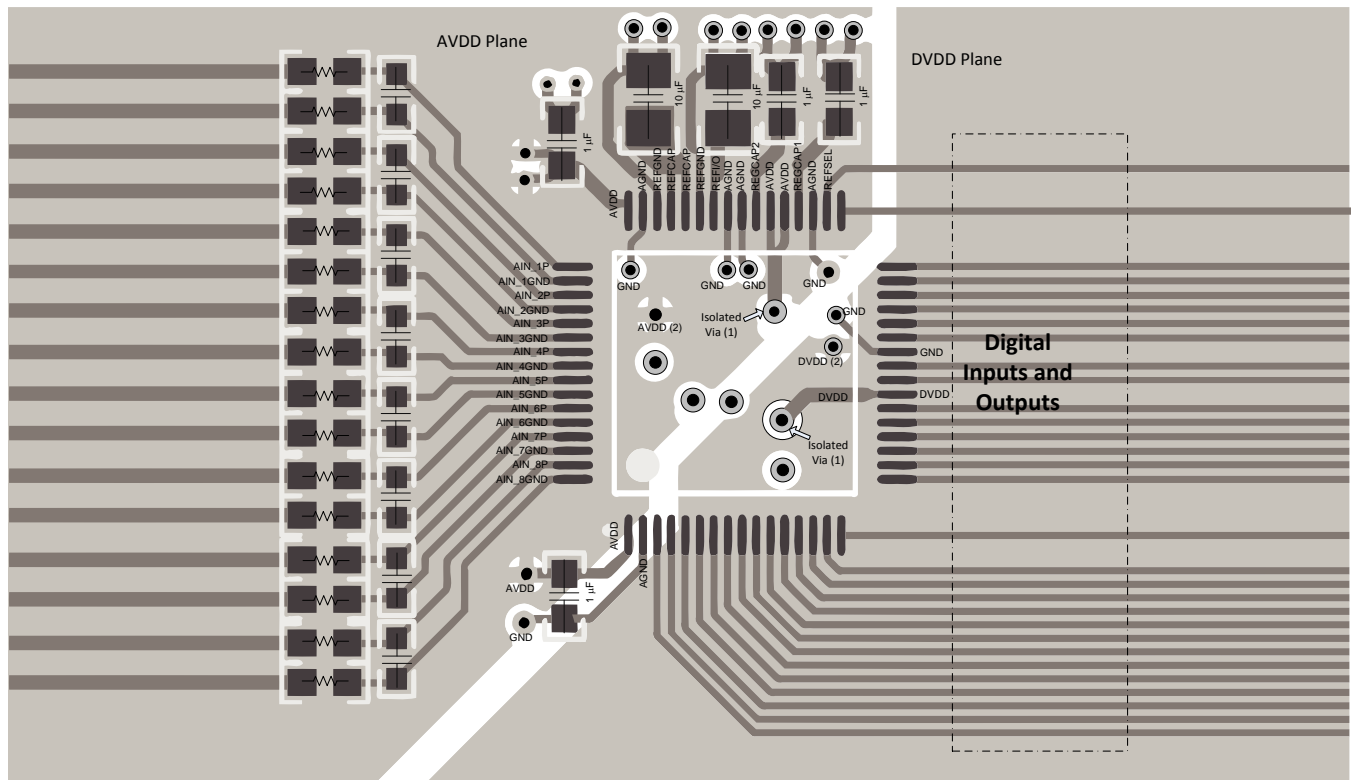
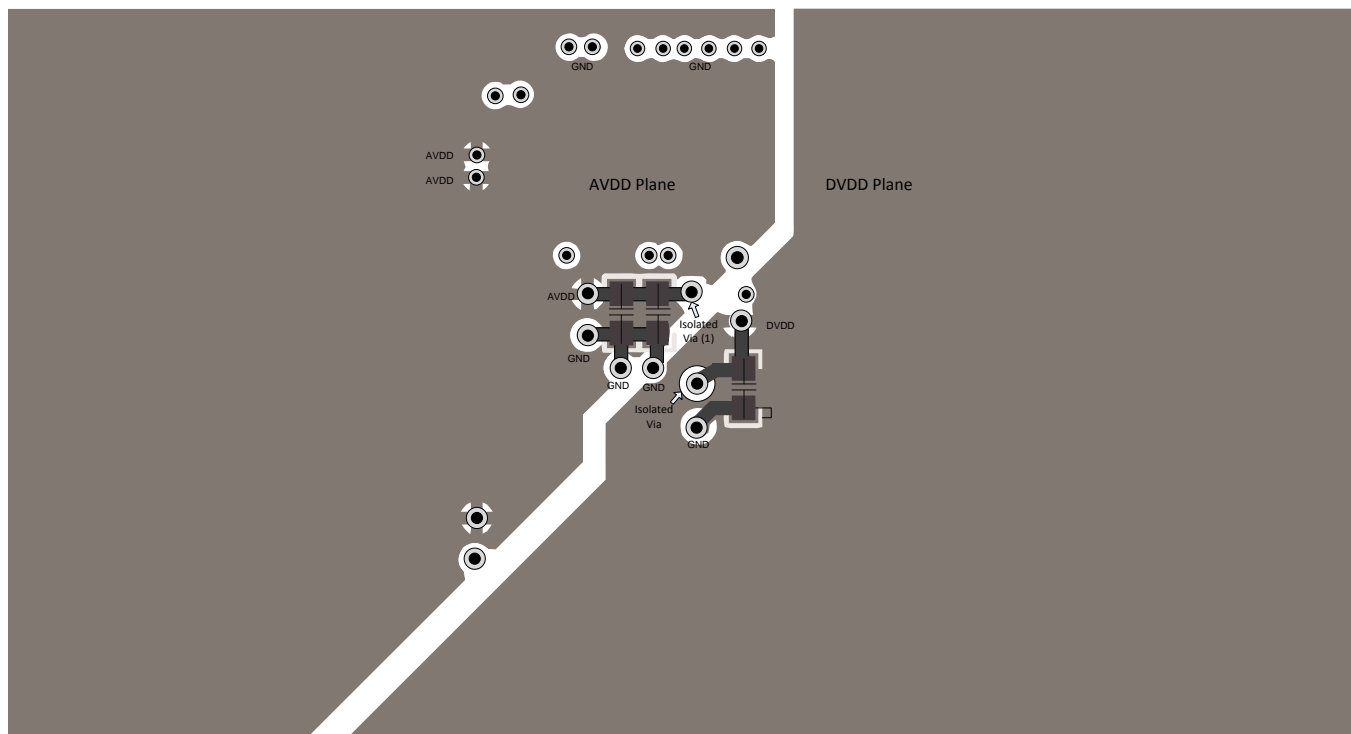

Figure 90. Top Layer Layout
Figure 91. Bottom Layer Layout
Figure 90 and Figure 91 illustrate a PCB layout example for the ADS8588S, ADS8586S, and ADS8584S.
- Power sources to the ADS8588S must be clean and well-bypassed. As a result of dynamic currents during conversion, each AVDD must have a decoupling capacitor to keep the supply voltage stable. Use wide traces or a dedicated analog supply plane to minimize trace inductance and reduce glitches. Using a 1- $\mu$ F, X7R-grade, 0603-size ceramic capacitor is recommended in close proximity to each analog (AVDD) supply pins. Bypass capacitors for AVDD pins 1 and 48 are located on the top layer; see Figure 90. AVDD supply pins 37 and 38 are connected to bypass capacitors in the bottom layer using an isolated via (1); see Figure 91. A separate via (2) is used to connect the bypass capacitor to the AVDD plane.
- For decoupling the digital (DVDD) supply pin, a 1- $\mu$ F, X7R-grade, 0603-size ceramic capacitor is recommended. The DVDD bypass capacitor is located in the bottom layer; see Figure 91.
Figure 90 and Figure 91 illustrate a recommended layout for the ADS8588S along with proper decoupling and reference capacitor placement and connections.